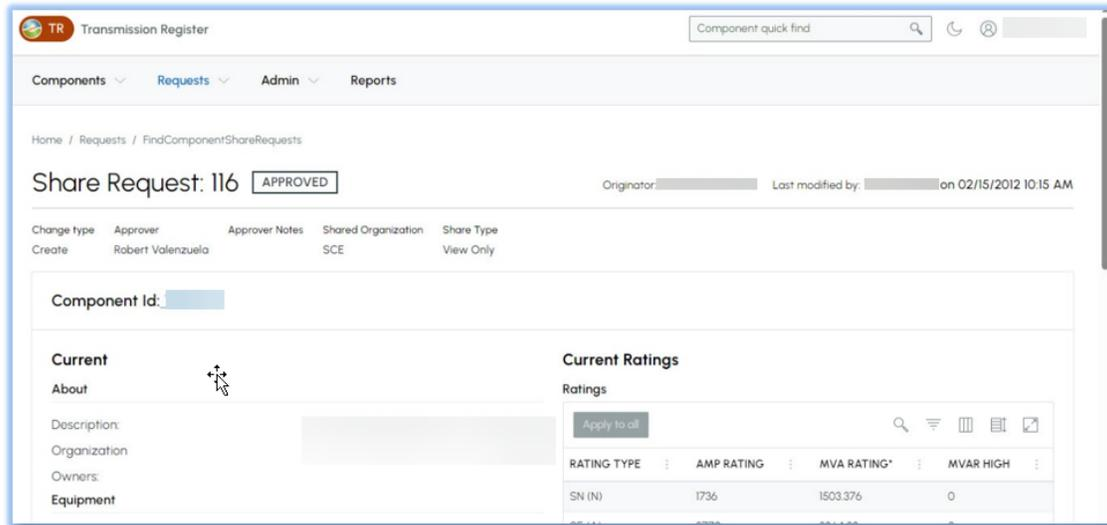
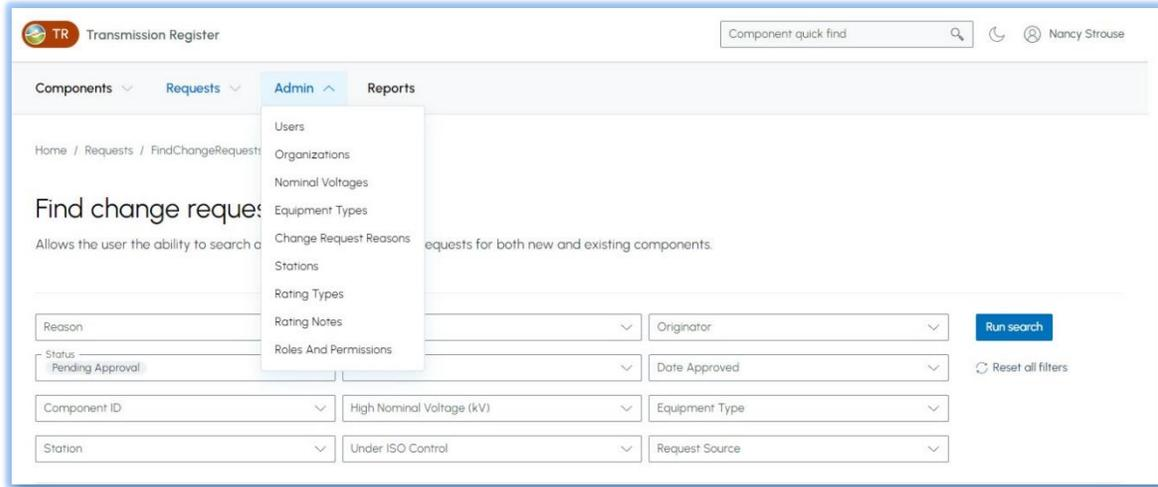

Figure 28 Share Request Details
Figure 29 Admin Screen
- 1) Click on the Rating Types hyperlink shown in Figure 28 and the screen in Figure 29 loads.
- 1) Click on the Rating Notes hyperlink shown in Figure 28 and the screen in Figure 31 loads.